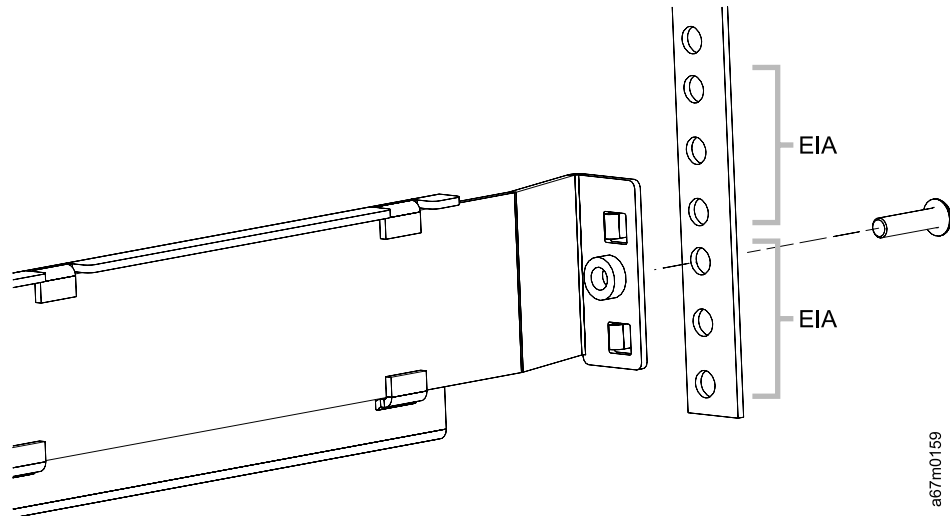

Figure 12. Attaching rails to the rear of the rack
5. Now screw the rear of the rail to the rack (again using a #1 Phillips screwdriver and a M6X 16 Black Combo/Flange HD screw). See Figure 12 on page 25. If the rails fail to reach the back of the rack, extend the rails to the required length.